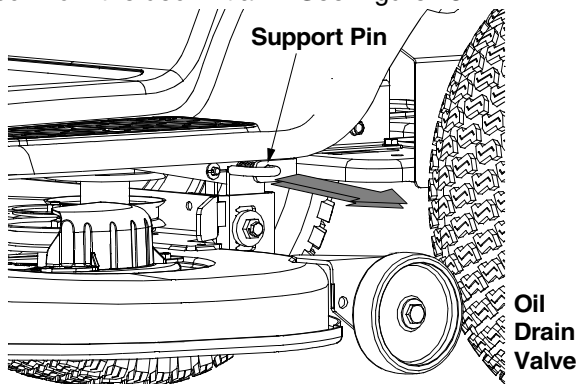

Figure 13
- Pull the deck support pin outward to release the deck from the deck lift arm. See Figure 13.